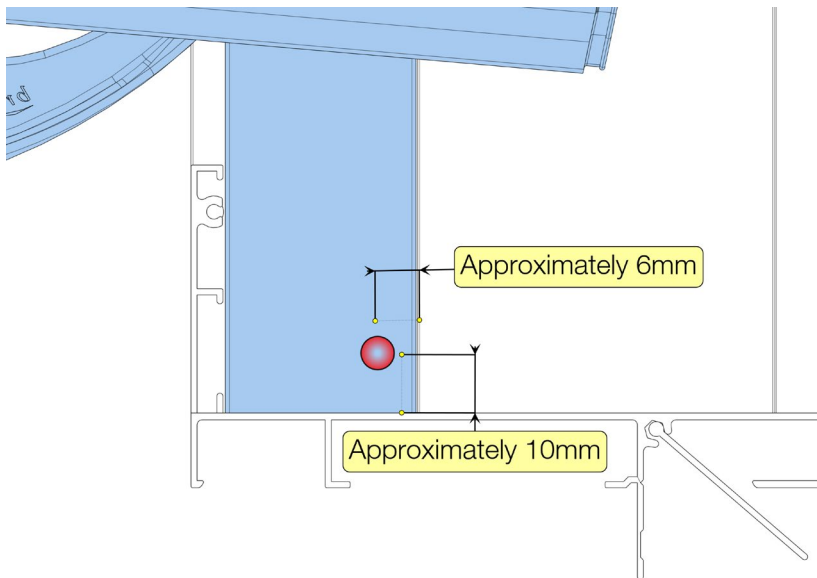

Fig. 23.4.1.1-1.4
9. As the same time of this lever action, strike the inside corner of the channel with a soft face mallet to aid in decoupling the snap fit between the channel and the jamb. *Refer to Figure 23.4.1.1-1.3.*